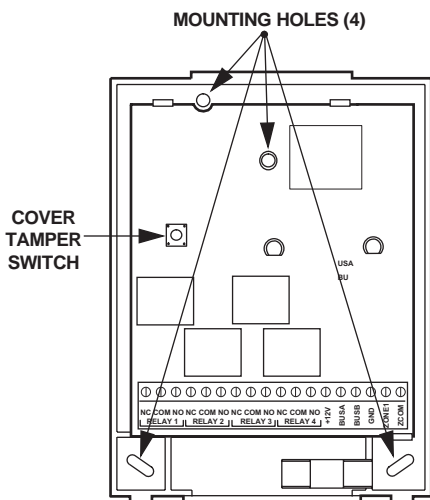

Figure 5. HOM Mounting Holes
3. Place the back plate on the wall and mark the mounting holes (Figure 5).